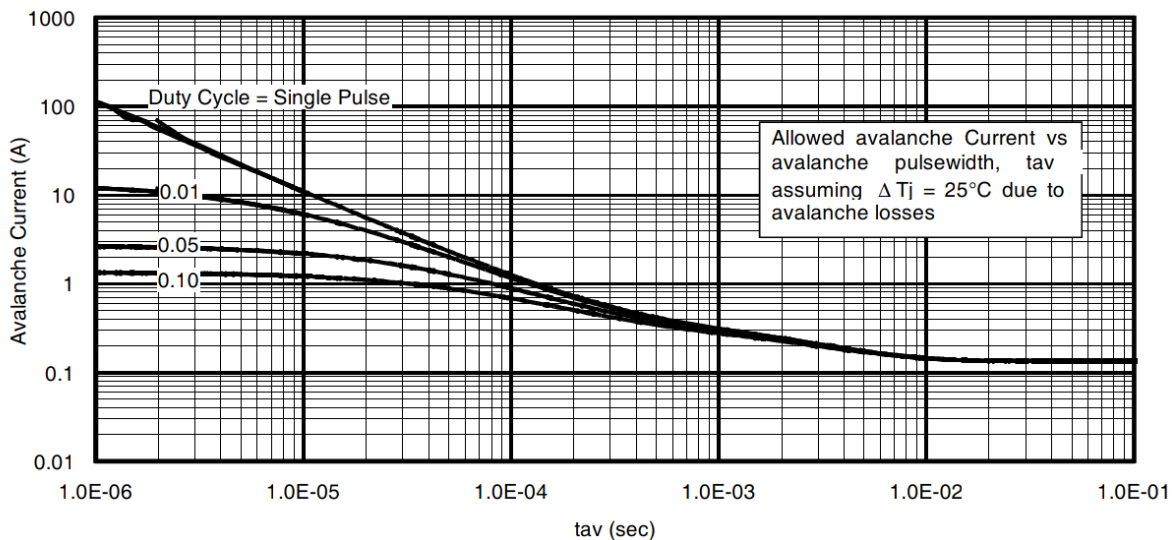

Fig 14. Typical Avalanche Current vs. Pulse width
- ① Repetitive rating; pulse width limited by max. junction temperature.
- ② Starting $T_J = 25^\circ\text{C}$, $L = 1.62mH$, $R_G = 25\Omega$, $I_{AS} = 11A$.
- ③ Pulse width $\leq 400\mu s$; duty cycle $\leq 2\%$.
- ④ R_θ is measured at T_J approximately 90°C .
- ⑤ Limited by T_{jmax} . See Figs. 14, 15, 16a, 16b for repetitive avalanche information
Notes on Repetitive Avalanche Curves , Figures 14, 15: